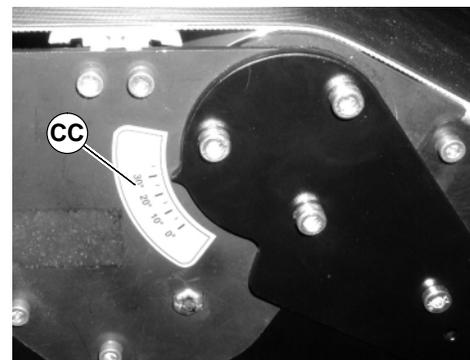

Figure 54
3. Move conveyor to desired angle as indicated by angle label (CC of Figure 54).